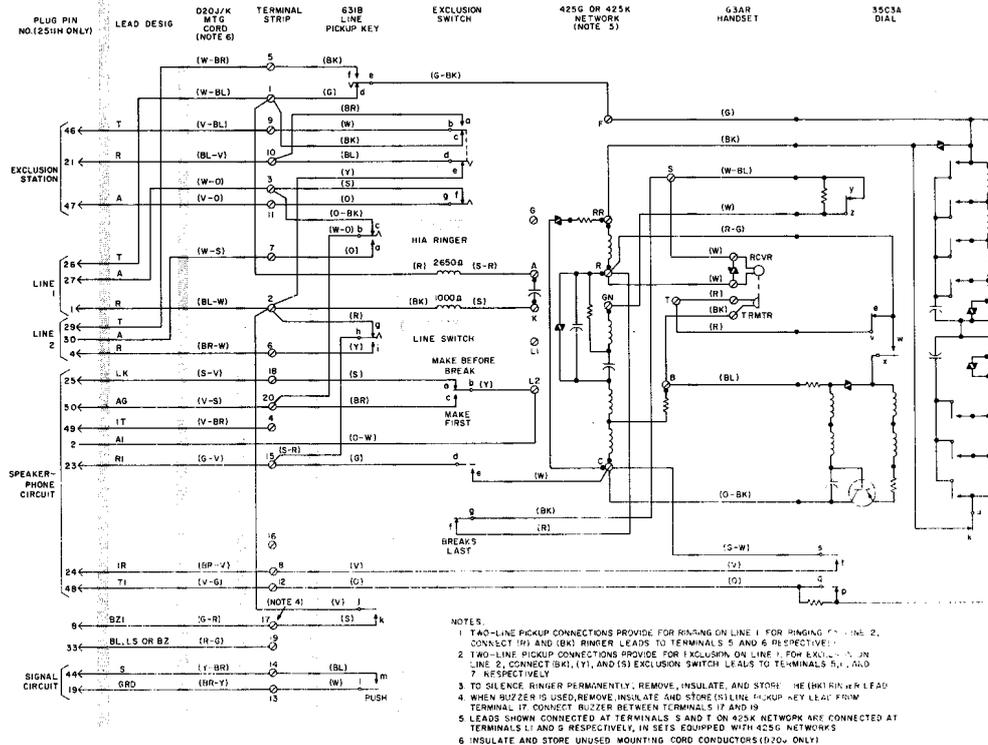

FIGURE 1. 2511F/H Telephone Set Connections, 2 Line Pickup With Exclusion on Line 1, Signaling, and 3 Type Speakerphone (Factory Wired)
- e. 2511F/H Telephone Set Connections, 2 Line Pickup With Exclusion on Line 1, Signaling, and 3 Type Speakerphone (Factory Wired)—Figure 1.